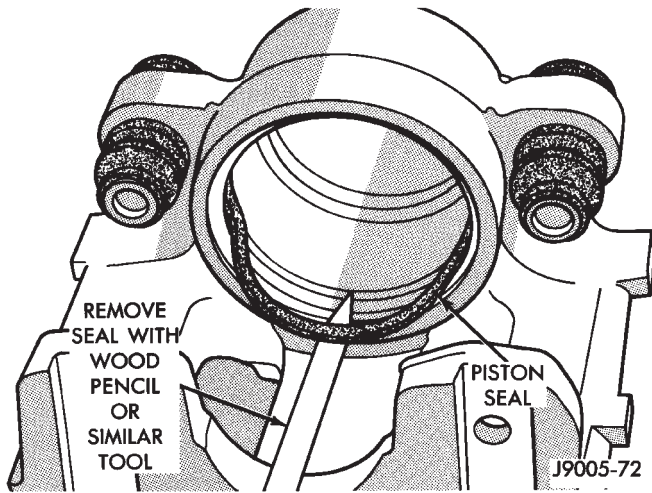

Fig. 68 Piston Seal Removal
(6) Remove caliper piston seal with wood or plastic tool (Fig. 68). Do not use metal tools as they will scratch piston bore.